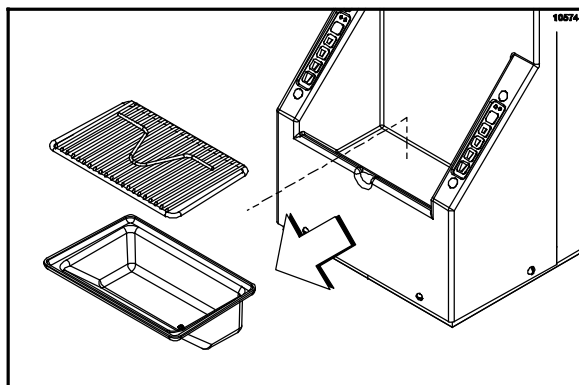

Figure 42
14. Remove the drip tray and the splash shield from the front panel. (See Figure 42.)